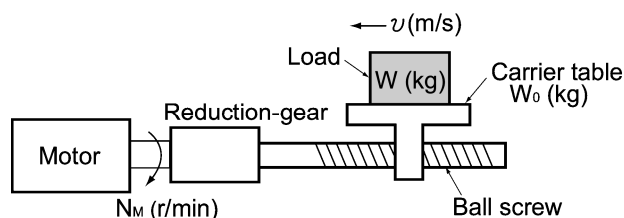

Figure 7.7 Moving a Load Horizontally
A simplified mechanical configuration is assumed as shown in Figure 7.7. If the mass of the carrier table is  $W_0$  kg, the load is  $W$  kg, and the friction coefficient of the ball screw is  $\mu$ , then the friction force  $F$  (N) is expressed as follows, which is equal to a required force for driving the load:
Assume a carrier table driven by a motor as shown in Figure 7.7. If the table speed is  $v$  (m/s) when the motor speed is  $N_M$  (r/min), then an equivalent distance from the rotation axis is equal to  $60 \cdot v / (2\pi \cdot N_M)$  m. The moment of inertia of the table and load to the rotation axis is calculated as follows: